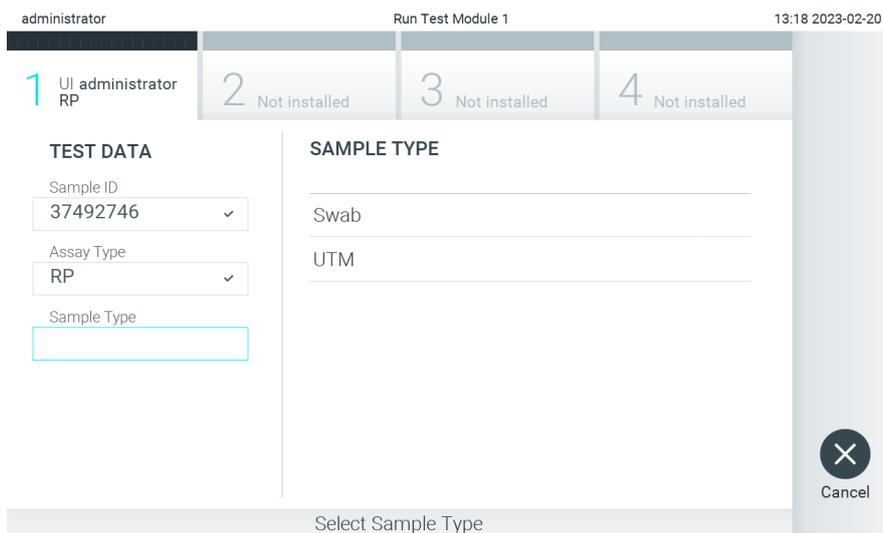

Figure 88. Selecting sample type.
- The Assay Type field will be automatically entered and, if required, an appropriate Sample Type must be manually selected from the list (Figure 88).
3. When prompted, scan the sample ID barcode using the bar code reader that is integrated into the Operational Module (Figure 88)